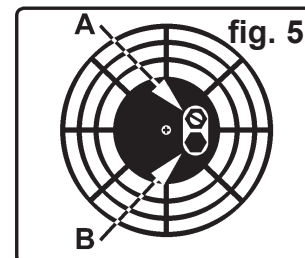

fig. 5
5.1. **Running the heater on paraffin.** The heater has been factory pre-set for paraffin and will produce the correct heat output when first used from new. You should run the heater at the pre-set output in order to ensure the long life, safety and reliability of the unit. Minor adjustments to heat output may be required during the first 60 hours of use. These adjustments are made to the air pressure valve (see fig.5.A). Once the unit has completed the running-in period it should not be necessary to alter the air pressure again until a new air filter is fitted or a change of fuel takes place.
5.1.4. To adjust the heat output, locate the air pressure valve (fig.5.A), which is in the centre portion of the air inlet grille at the back of the unit. Hold the adjusting screw steady with a screwdriver and loosen the locking nut. Turn the screw clockwise to increase the air pressure and thus increase the heat output. Turn the screw anticlockwise to decrease the air pressure and thus decrease the heat output. Make small adjustments only and give the heater time to stabilise before observing the effect on the colour of the dome. When the colour is normal as described above in section 5.1.3.(a) tighten the locking nut.
5.2.3. Plug back into the mains supply and start the heater, run for two minutes before making any adjustment to the air pressure valve. Locate the valve (fig.5.A) which is in the centre portion of the air inlet grille at the back of the unit. Hold the adjusting screw steady with a screwdriver and loosen the locking nut. Turn screw half a turn anticlockwise to decrease the air pressure, and thus decrease the heat output, to compensate for the hotter burning diesel fuel. Retighten the locking nut.
5.3.1. If there is any doubt about the efficient operation of the heater, the air pressure should be checked more exactly using a pressure gauge which will measure up to 30 p.s.i. and has a 1/8" BSP thread. With the heater turned off and unplugged from the mains, remove the threaded plug from below the air pressure valve and attach the gauge, see fig.5.B. Start the heater and compare the pressure reading with the chart shown on the right. If the reading differs from the chart this indicates that maintenance is required as laid out in Section 6. You should also investigate whether the environmental conditions at the location of the heater are suitable, with particular reference to the amount and quality of the air supply.